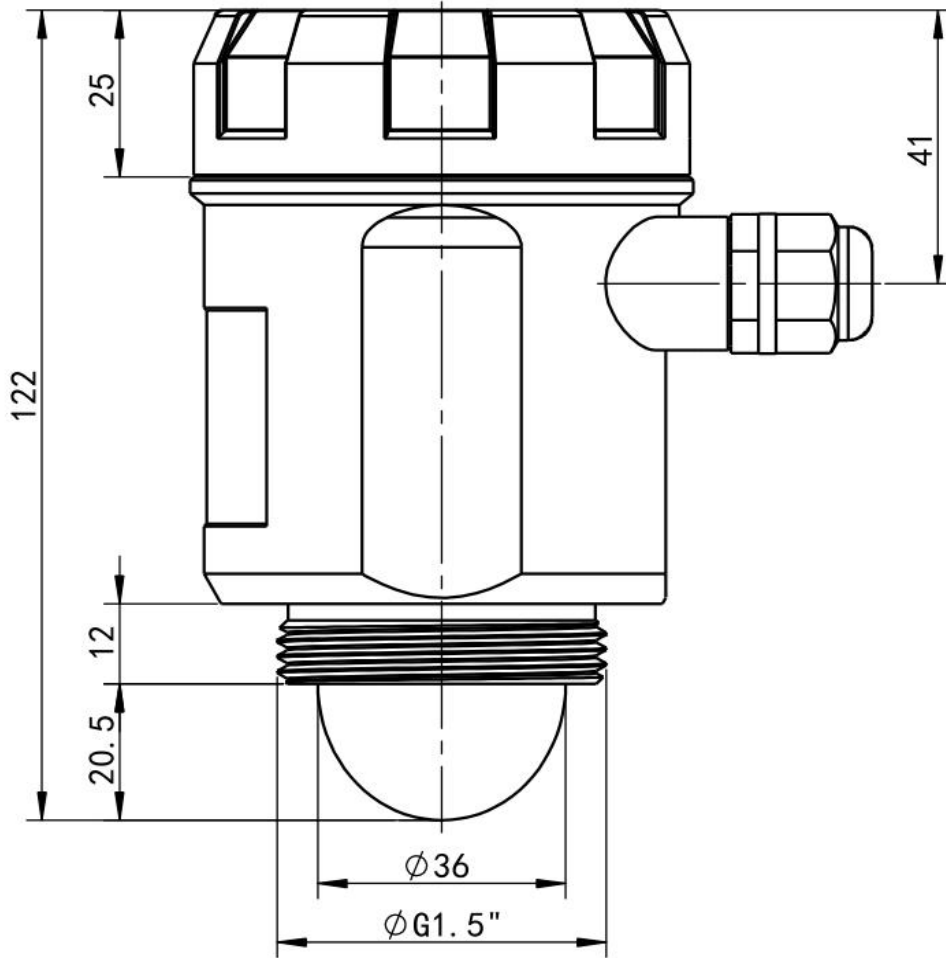

Figure 1 Radar shape structure
- Radar level transmitter shape structure figure is shown as in Figure 1.